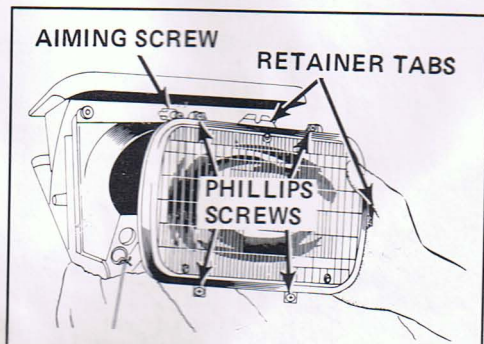

Figure 6 - Removing headlight with retainer
12. Rotate the headlight assembly slightly counter-clockwise until the retainer tabs are clear of the aiming screws. DO NOT remove or adjust these screws. See Figure 6.
13. Remove the 4 Phillips screws from the 2-piece retainer which surrounds the headlight. See Figure 6. Separate the 2-piece retainer and remove the headlight.